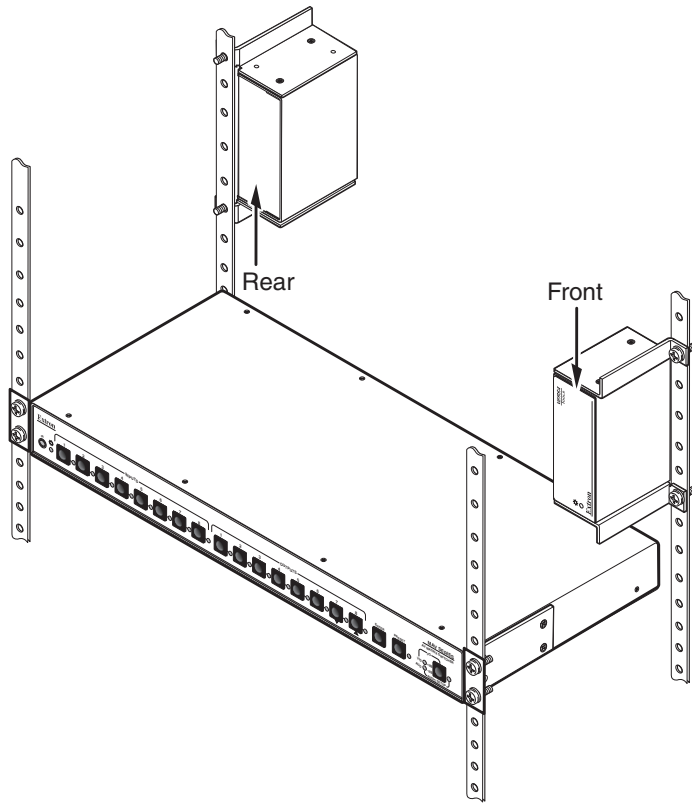

Figure 6 — Typical back of the rack installations
5. Mount the unit to the rack using the two included rack screws (figure 6, on the next page). The MDA can be vertically mounted facing in either direction.